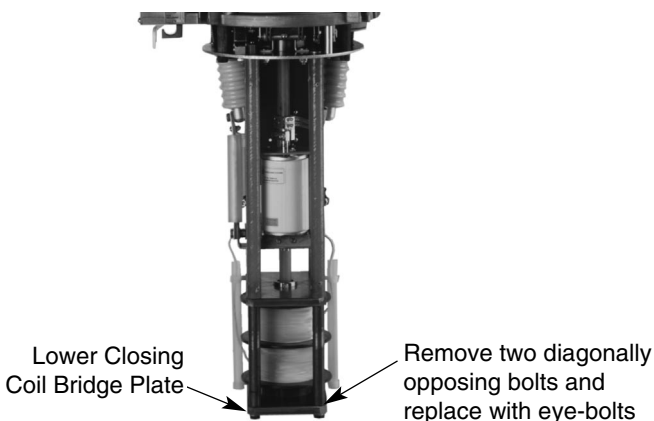

Figure 13.
4. Remove two diagonally opposing 3/8 inch bolts that secure the closing coil bridge plate to the stringers. See Figure 13.